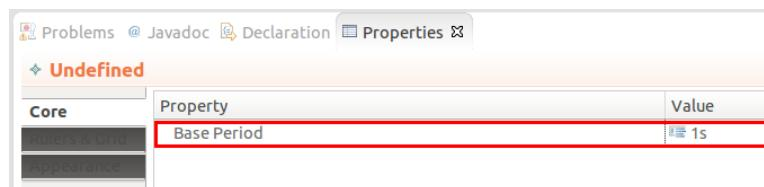

Figure 4.8: Setting statemachine base rate
- **Statemachine base rate** The statemachine base rate can be set only from the properties view, which can be brought to front by clicking anywhere on the canvas and setting the value of "Base Period" property as shown in Figure 4.8.